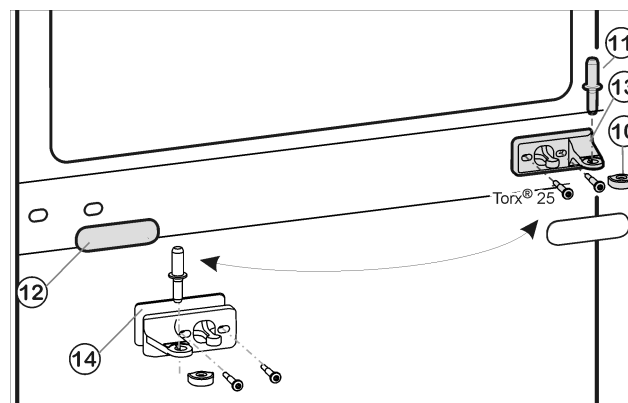
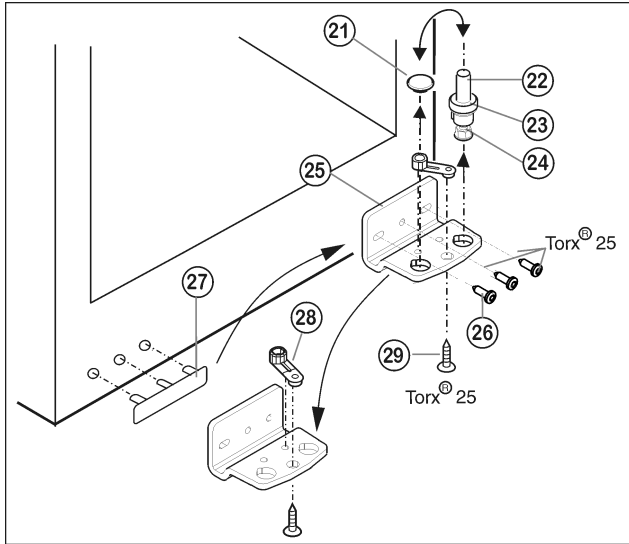

Fig. 6
Fig. 7
- ▶ Remove the center bearing pin Fig. 6 (11) from the bearing bracket and the lower door.
- ▶ Remove the plastic cap Fig. 6 (10).
- ▶ Unscrew the middle bearing bracket Fig. 6 (13) (2 Torx® 25 screws).
- ▶ Carefully remove the cover trim Fig. 6 (12).
- ▶ Screw the middle bearing bracket Fig. 6 (13) with the supporting plate Fig. 6 (14) turned 180° onto the new hinge side (4 Nm).
- ▶ Turn the cover trim Fig. 6 (12) 180° and snap it back into place on the new handle side.
- ▶ Unscrew the bearing pin Fig. 7 (22), including the washer Fig. 7 (23) and adjustable foot Fig. 7 (24), all the way and pull it out.
- ▶ Remove the plug Fig. 7 (21).
- ▶ Unscrew the Fig. 7 (25) bearing bracket Fig. 7 (26).
- ▶ Unscrew Fig. 7 (28) the bearing part Fig. 7 (29) and swap it over to the opposite positioning hole; then screw it in place.
- ▶ Carefully lift off the cover on the handle side Fig. 7 (27) and move it to the opposite side.
- ▶ Using a cordless screwdriver if necessary, secure the bearing bracket Fig. 7 (25) **tightly (to 4 Nm)** on the new hinge side.
- ▶ Insert the plug Fig. 7 (21) into the other hole.
- ▶ Insert the bearing pin Fig. 7 (22), including the washer and adjustable foot, all the way. Make sure the detent lobe is pointing toward the back.
- ▶ Position the lower door from above onto the bearing pins below Fig. 7 (22).
- ▶ Place the plastic cap Fig. 6 (10) back onto the center bearing bracket Fig. 6 (13).
- ▶ Insert the center bearing pin Fig. 6 (11) on the new hinge side through the center bearing bracket Fig. 6 (13) into the lower door.
- ▶ Place the upper door onto the center bearing pin Fig. 6 (11).
- ▶ Align the doors flush with the appliance housing, using the two oblong holes in the lower bearing bracket Fig. 7 (25) and in the center bearing bracket Fig. 6 (13) as a guide, if needed. To do so, unscrew the center screw on the lower bearing bracket Fig. 7 (25).